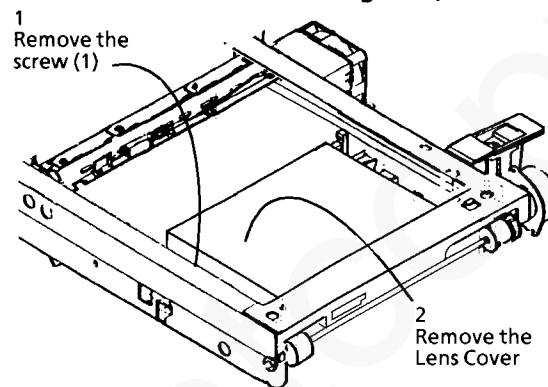

Figure 1. Removing the Lens Cover
3. Remove the Lens Cover (Figure 1).